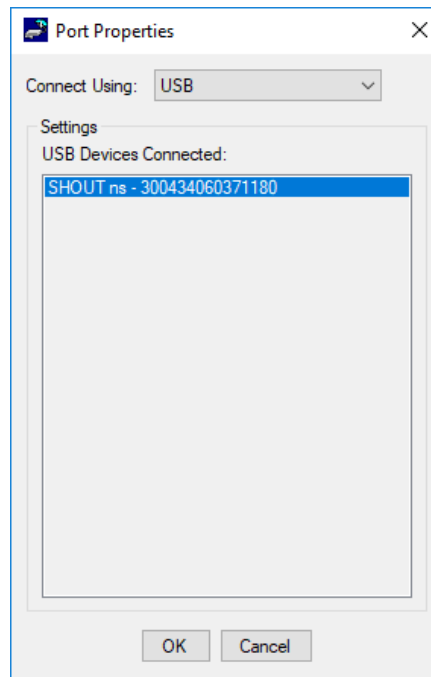

Figure 5. Port Properties Window option.
5. Use the *Options>Properties* menu to configure the communications port settings (see Figure 5). The default should already be set to USB for the SHOUT ns. Choose **Options > Properties > Set Port Properties**. This option sets the computer's communication parameters to communicate with a connected and powered SHOUT ns. If the USB port is not already selected, select the "Connect Using..." drop-down menu and choose USB.
5. Use the *Options>Properties* menu to configure the communications port settings (see Figure 5). The default should be set to USB for the SHOUT ns. Choose **Options > Properties > Set Port Properties**. This option sets the computer's communication parameters to communicate with a connected and powered SHOUT ns. If the Bluetooth port is not already selected, select the "Connect Using..." drop-down menu and choose BT.